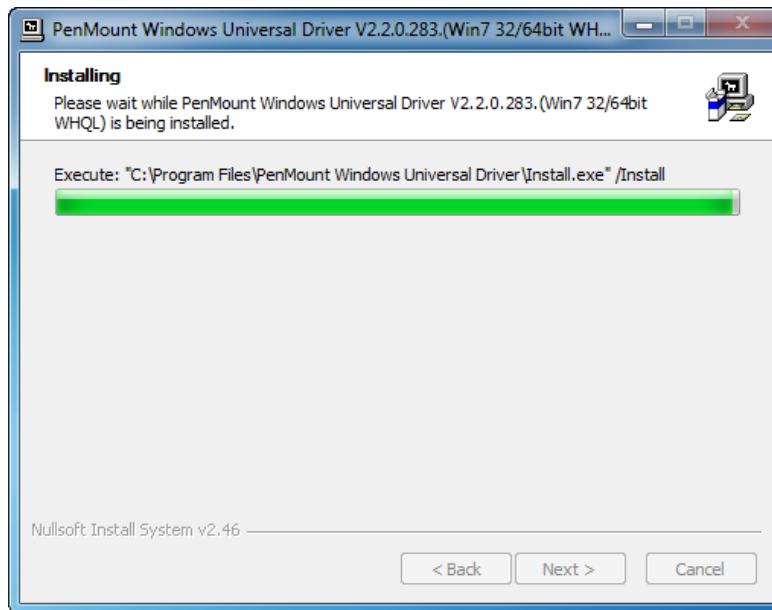

Figure 8-15: Touch Screen Driver Installation Screen
Step 10: The **Install** screen appears and displays the progress of the installation (**Figure 8-15**).